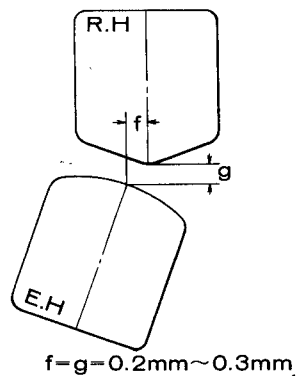

Fig. 5
- c. Clearance of the Bias Head (See Fig. 5)